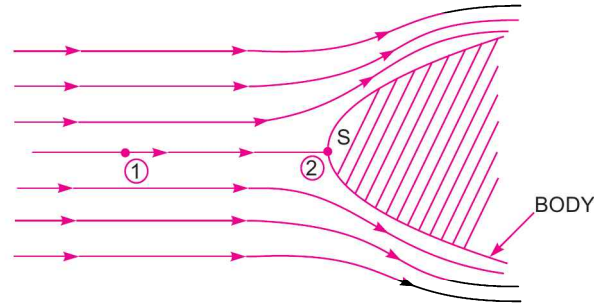

Fig. 15.4 Stagnation properties.
**15.7.1 Expression for Stagnation Pressure ( $p_s$ ).** Consider a compressible fluid flowing past an immersed body under frictionless adiabatic conditions as in Fig. 15.4. Consider two points 1 and 2 on a stream-line as shown in Fig. 15.4.